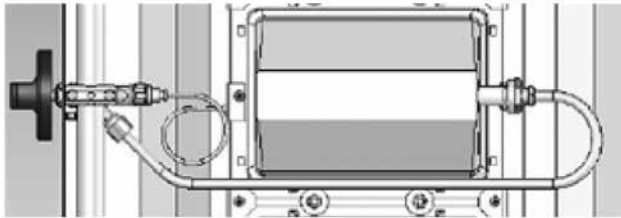

Fig. 6
- Similarly, fix the gas supply pipe in its place (Figure 6).
- Similarly, fix the On-Off knob in its place (Figure 6).